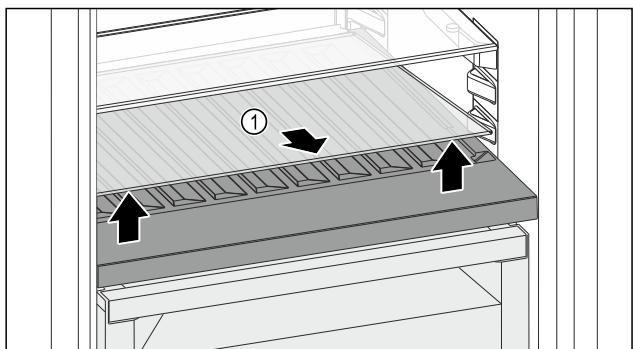

Fig. 112
- ▶ Lift the glass shelf Fig. 112 (1) in the front at the recess and pull it out.
- ▶ Store the glass shelf Fig. 112 (1) somewhere safe outside of the appliance.